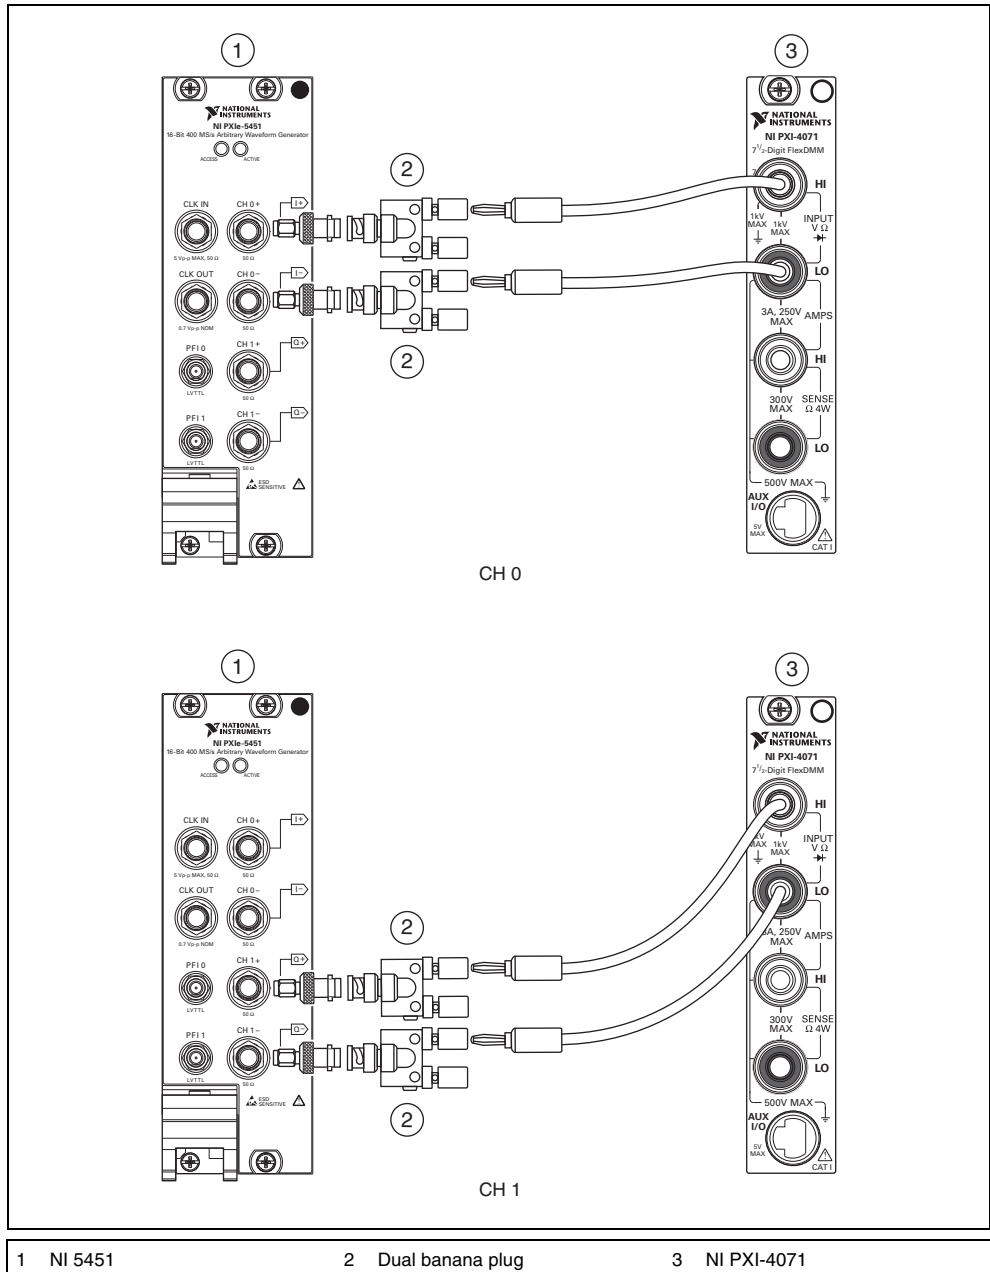

Figure 3. Differential DC Voltage Amplitude Absolute Accuracy Verification Connections for the NI 5451
1. Connect the differential CH 0 on the NI 5451 to the DMM, as shown in Figure 3.
11. Connect the differential CH 1 on the NI 5451 to the DMM, as shown in Figure 3.
10. Connect the differential CH 1 on the NI 5451 to the DMM, as shown in Figure 3.